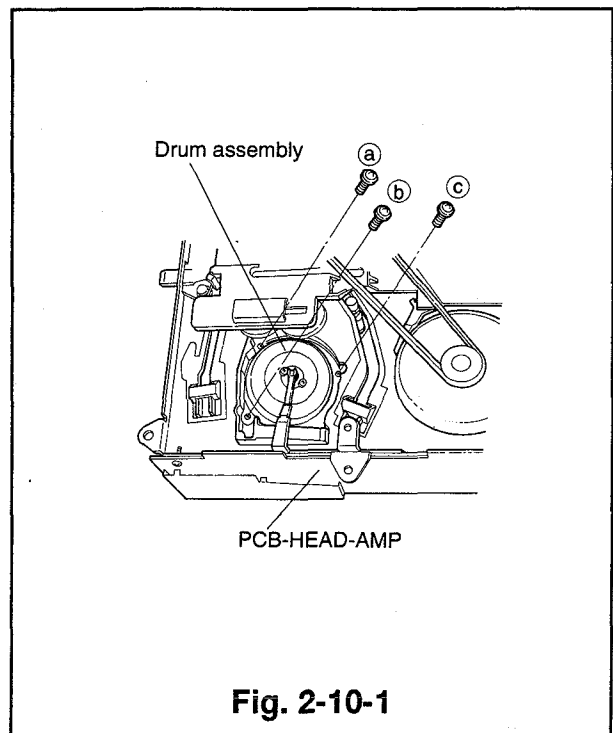

Fig. 2-10-1
- ① Remove the cassette housing. (Refer to Para. 2-1 for the removal method.)
- ② Remove the PCB-HEAD-AMP. (Refer to Para. 2-8 for the removal method.)
- ③ Unscrew the three screws (a), (b) and (c) on the reverse side of the deck and remove the drum assembly. (Refer to Fig. 2-10-1.)
- ④ Slowly raise the drum assembly upward, take care not to touch other parts around it. (Do not touch the tape running surface of the drum with your hand.)
- ① Carefully place the new drum assembly on the main plate of the deck, take care not to touch other parts.
- ② Holding the drum assembly, reverse the deck and secure the drum assembly with the three screws (a, b and c). (Tighten the screws in the order a→b→c and finally tighten again a.) (Refer to Fig. 2-10-1.)
- ③ Install the PCB-HEAD-AMP. (Refer to Para. 2-8 for the installation method.)
- ④ Install the cassette housing. (Refer to Para. 2-1 for the installation method.)
- ③ Unscrew the three screws (a, b and c) on the reverse side of the deck and remove the drum assembly. (Refer to Fig. 2-10-1.)
- ④ Slightly raise the drum assembly in the opposite direction of the pins. Remove the pins of the drum assembly and of the rotary transformer from the PCB-HEAD-AMP. Slowly remove the drum assembly, take care not to touch other parts around it.
- ① Carefully place the drum assembly on the main plate, take care not to touch the other parts around it. The pins of the drum assembly and the rotary transformer must enter the holes of the PCB-HEAD-AMP.
- ② Secure the drum assembly with the three screws (a, b and c) on the reverse side of the deck. (Tighten the screws in the order a→b→c and finally tighten a again.) (Refer to Fig. 2-10-1.)